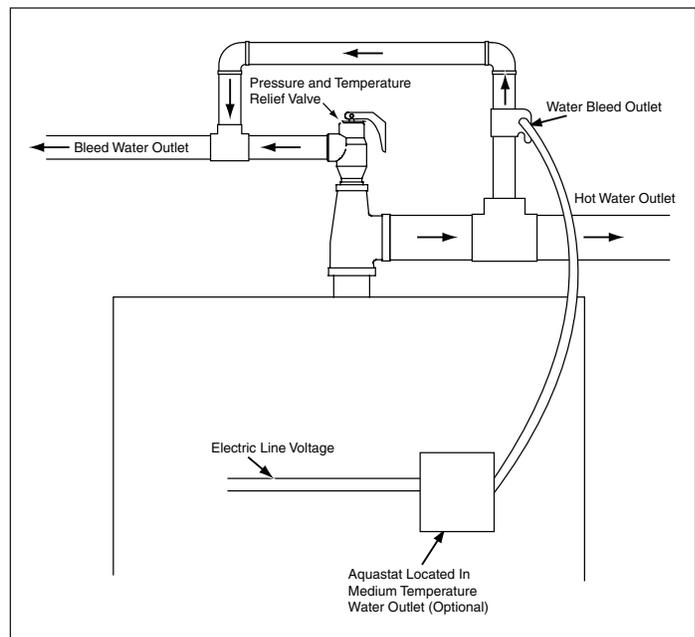

Figure 3: Therma-Stor bleed valve location (if used)
3. The hot water outlet is at the top of the tank. A reducing tee and a combination pressure/temperature relief valve are furnished with the Therma-Stor II-6. These must be installed so the sensing element extends inside the tank and the hot water discharge is horizontal, as shown in Figure 3 and 4. Connect the outlet of the relief valve to a suitable drain. The drain
3. Considerations should be made to accommodate a flow rate of 40 gallons per hour. See Figure 3 for the preferred installation.